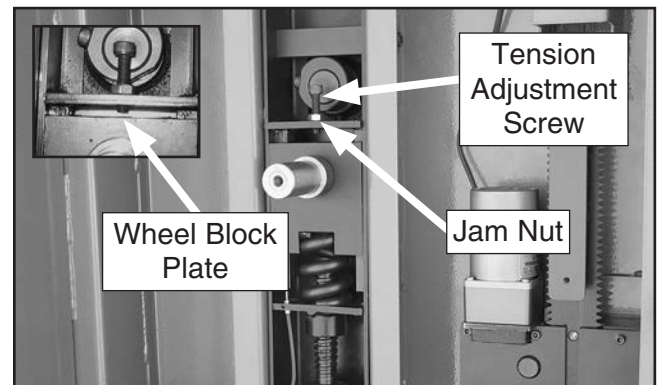

Figure 72. Quick release tension lever adjustment screw.
3. Loosen the jam nut (see **Figure 72**), then remove the screw and nut.
5. Thread the cap screw with the jam nut through the plate where it was attached previously and down until it contacts the wheel block plate, then back the screw off two full turns (see **Figure 72**).